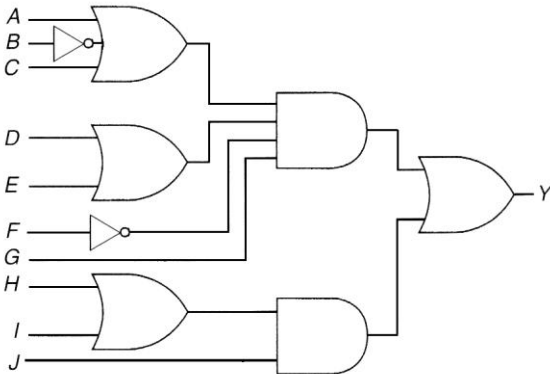

Figure 4-28 Gate array for assignment 11.
11) Develop a PLC program that will simulate the gate array logic shown in Figure 4-28. Enter the program into the PLC, and prove its operation.